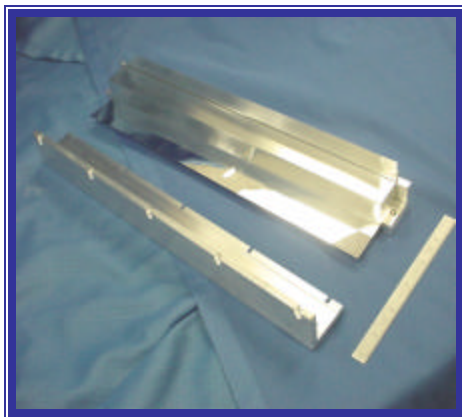

Figure 2: Wrapping Mold Fixture with Al “Crystal” & Reflective Film in Place
- 5) Lay the cut strip of VM2000 between the mold bottom (PN: B7359) and the aluminum crystal bar (PN: B7357) as shown in Figure 2. Be sure that the VM2000 surface which mates with the aluminum crystal bar is the more reflective side (i.e. the blue side). Adjust the reflective wrap as necessary so that the overlapped edge is centered along the length of the aluminum bar and the ends are flushed with the surfaces that simulate the ends of the true crystal. (See drawing B7456 for further details. Figures 2-4 depict the VM2000 forming process.)